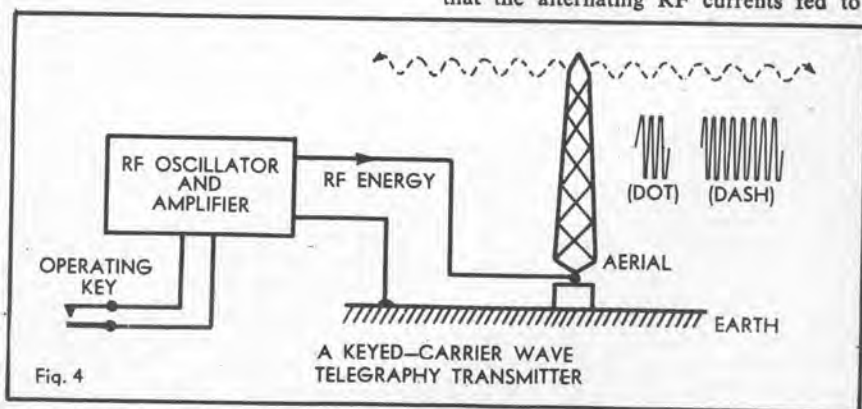

Fig. 4
**Figure 4.** A keyed-carrier wave transmitter is a system whereby messages can be radiated in the form of long or short "bursts" of RF waves. A key switches the RF oscillator and amplifier sections on and off according to the "dots" and "dashes" of the morse code.